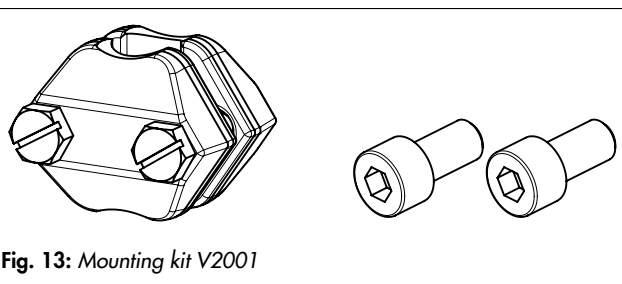

Fig. 13: Mounting kit V2001
4. Extend the actuator stem until the actuator stem (3) rests on the plug stem (5).
5. Position the two stem connector clamps (see Fig. 13) from the V2001 mounting kit and fasten tight.